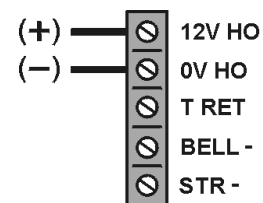

Figure 2: Power Supply Connection to Main Terminal Block
3. Connect a 12V AC-DC transformer to the Main terminal block. Figure 2 shows how to connect the transformer to the Main terminal block.